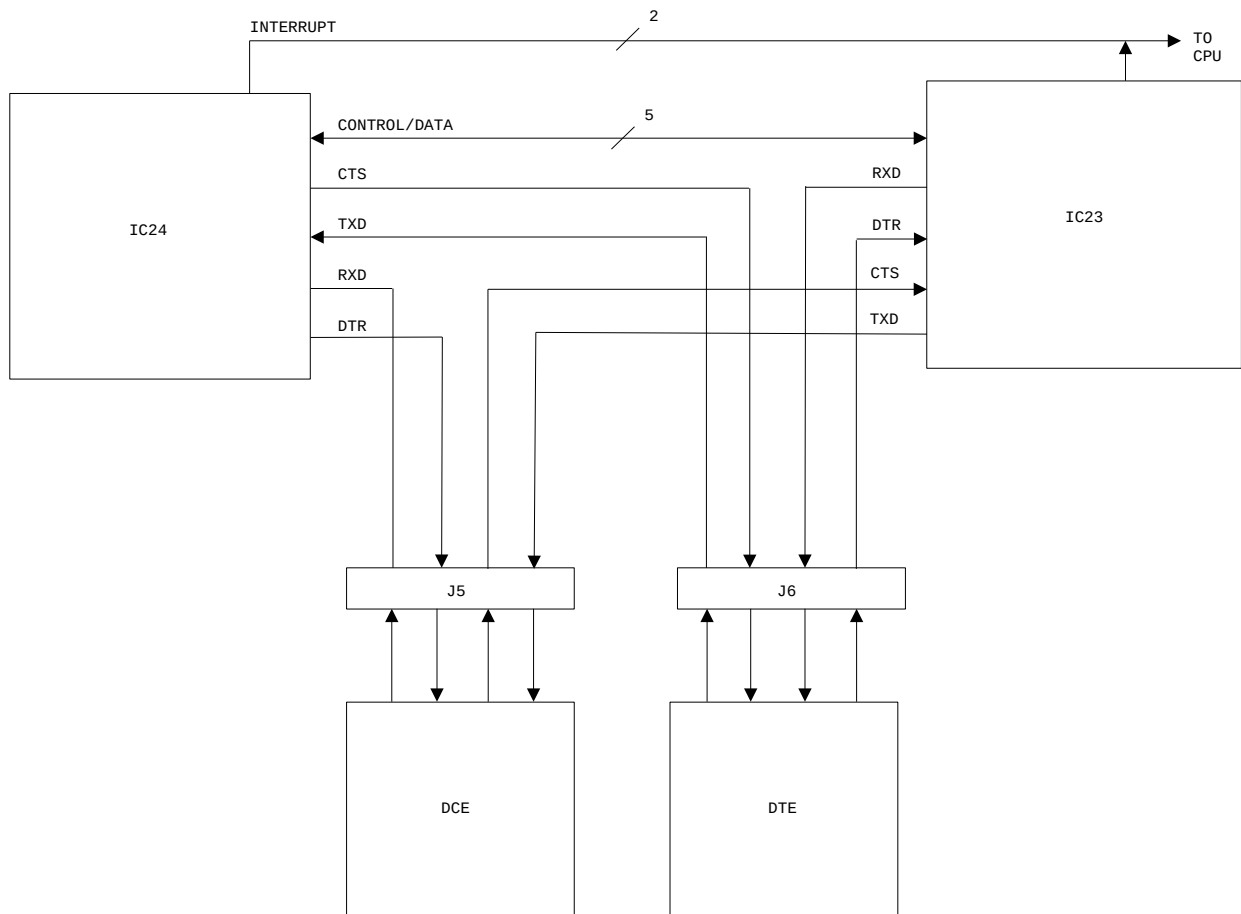

Figure 1.1 RS232 LINK
- 4.6. J5 and J6 are two RS232 connectors. J6 is connected so that the device connected to it may act as the Data Terminal Equipment (DTE) which originates the Data Terminal Ready (DTR) signal. J5 connects to the Data Communications Equipment (DCE) i.e. the local QL assumes DTE status. Figure 1.1 illustrates this schematically.